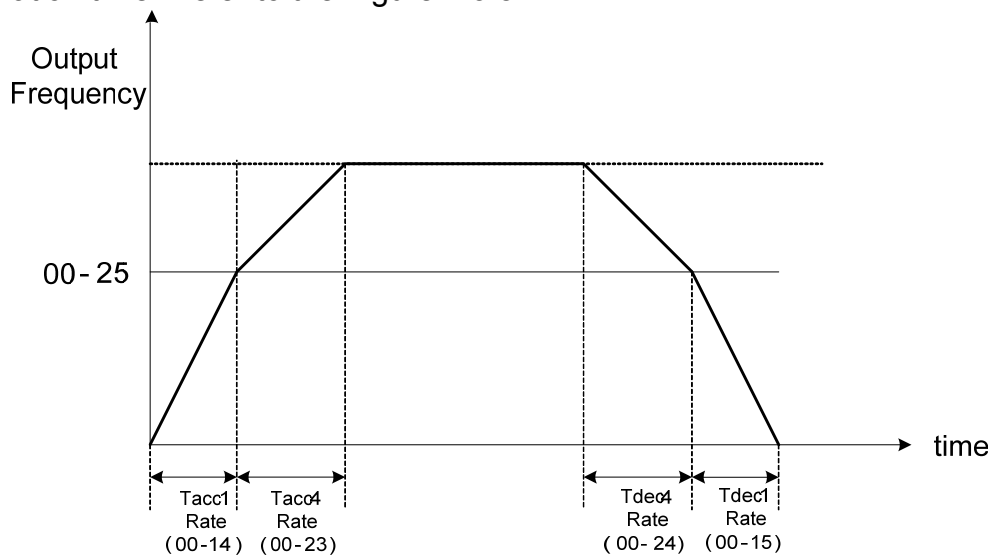

Figure 4.3.8 Automatically switch acceleration / deceleration
- . When the output frequency reaches set value of 00-25, it will follow the set frequency of 00-25 to automatically switch the first and the fourth acceleration / deceleration time. Refer to the Figure 4.3.8.